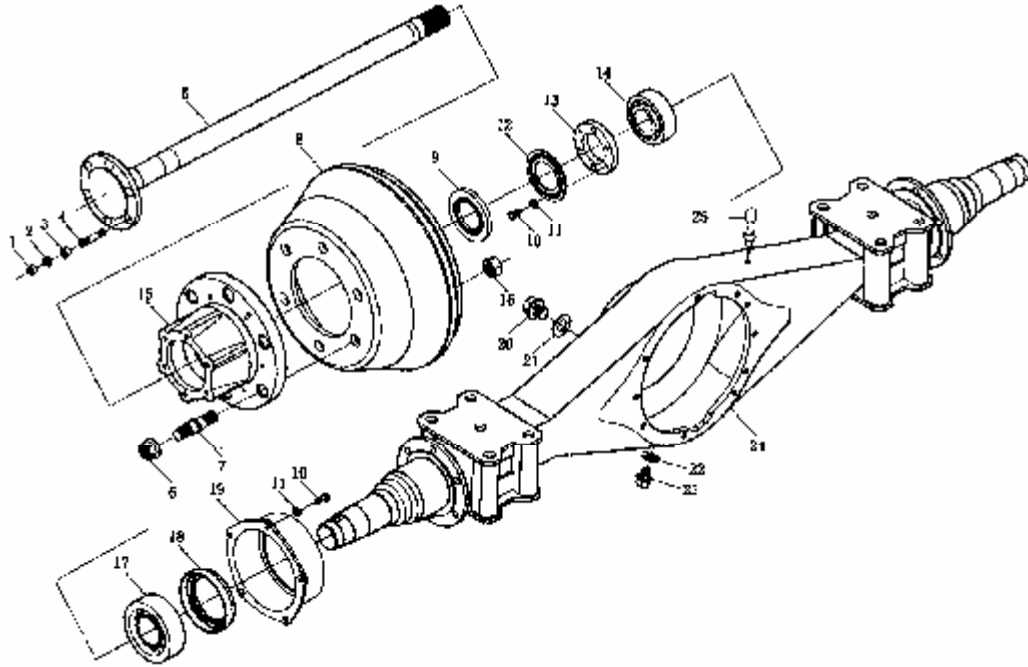

Figure 7-4-1 Rear axle assembly
BJ1049, BJ1043 light trucks adopt un-divided axle, single stage hypoid gear final gear, conical helix differential, fully floating half shaft integrated banjo cast axle case and ordinary rear wheel hub. See figure 7-4-1, 7-4-2, 7-4-3.
3. Half shaft (figure 7-4-1)
4. Rear axle case (figure 7-4-1)